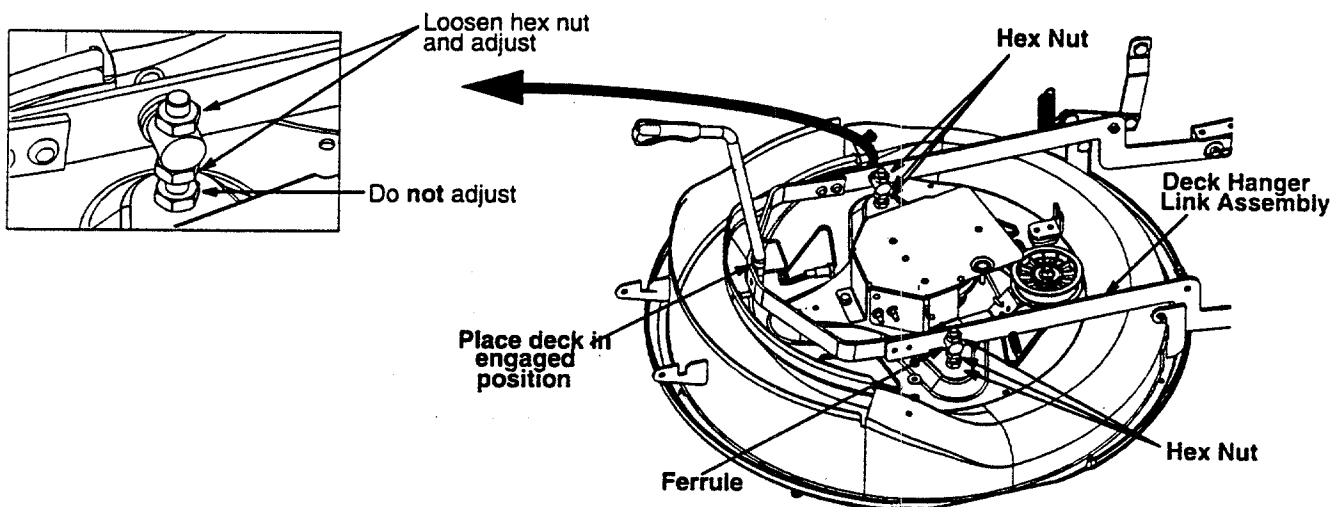

Figure 25
- Loosen the top hex nut out of the three nuts that hold the hex bolt and the ferrule on the deck hanger link assembly. See Figure 25. **Do not try to loosen or tighten the bottom nut.**
- Loosen the second nut up or down as necessary. See Figure 25.